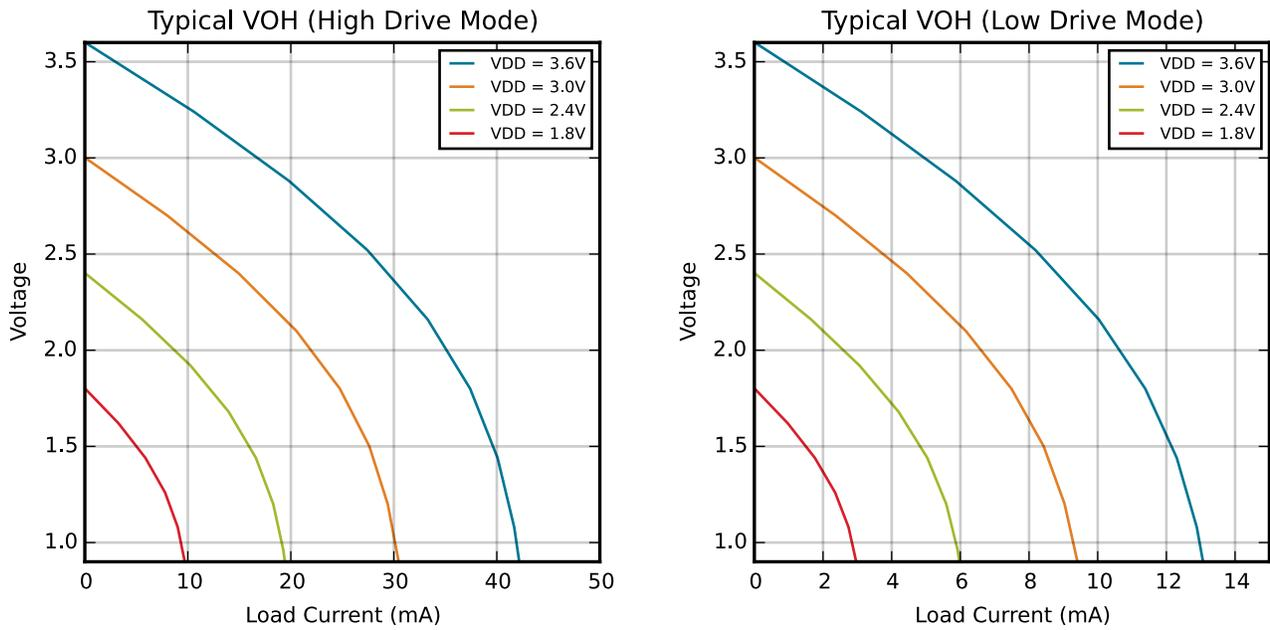
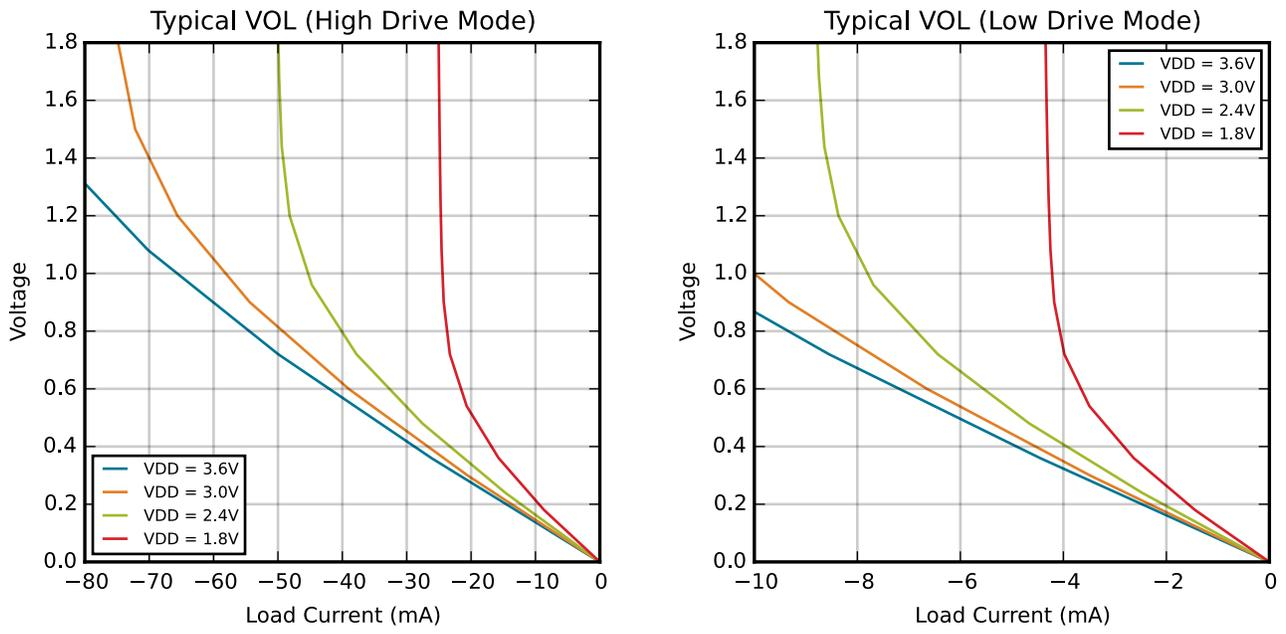

Figure 4.3. Typical VOH Curves
Figure 4.4. Typical V_{OL} Curves
1. See Figure 4.3 Typical V_{OH} Curves on page 29 and Figure 4.4 Typical V_{OL} Curves on page 30 for more information.